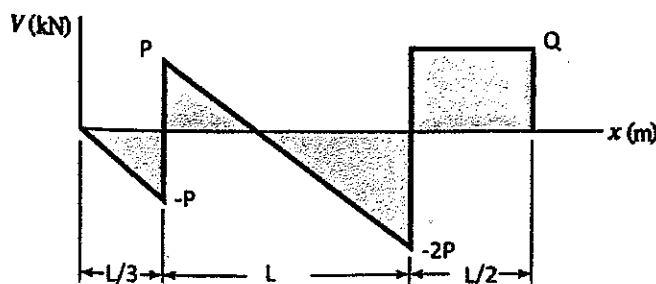

Fig.3
3. Figure 3 shows the shear force diagram on a beam. Find the value of force Q (in terms of P) and draw the loads and bending moment diagram that correspond to Figure 3. Assume that no couple is applied. (20%)